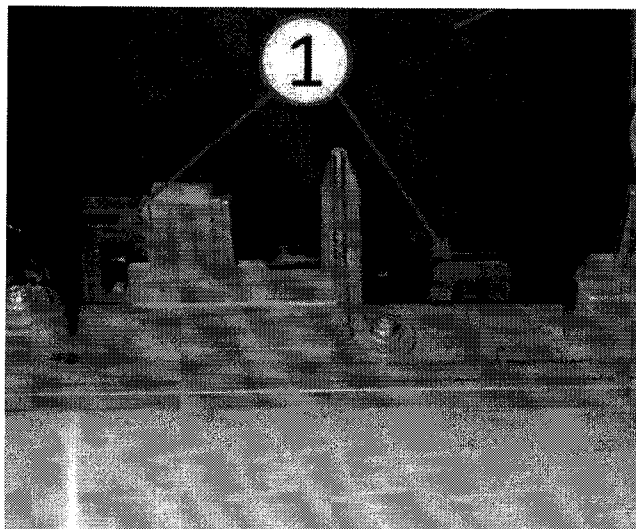

***Fig. 6 HVAC Outlet Lower Outer Corner Attachment***
6. Ensure the lower outer corner of the HVAC outlet is properly attached (Fig. 6).